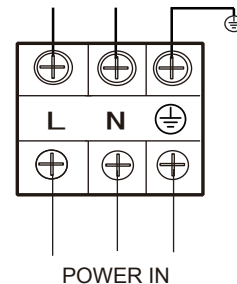

Fig.9-1
- Terminal Board Diagram follow as Fig.9-1